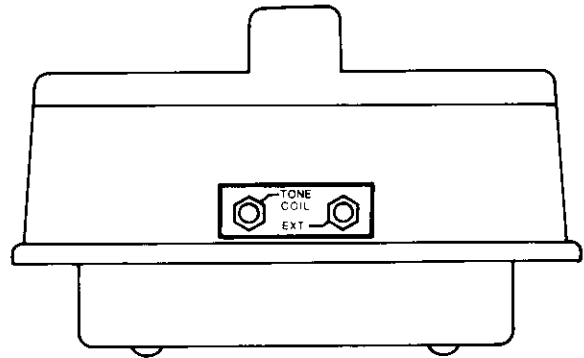

Fig. 6 — Receiver Unit EXTERNAL and TONE COIL Jacks
- (f) The TONE COIL jack (Fig. 6) is an input connector for use in the AUDIO mode with an accessory coil for cable identification.
- (g) The EXT Jack (Fig. 6) is a signal input jack for use with accessories such as the Dyna-Coupler, the 3011 Inductive Probe Head (available separately), and the 3013 Direct Probe Head (available separately). This jack is energized with the RECEIVER MODE switch in EXT mode.